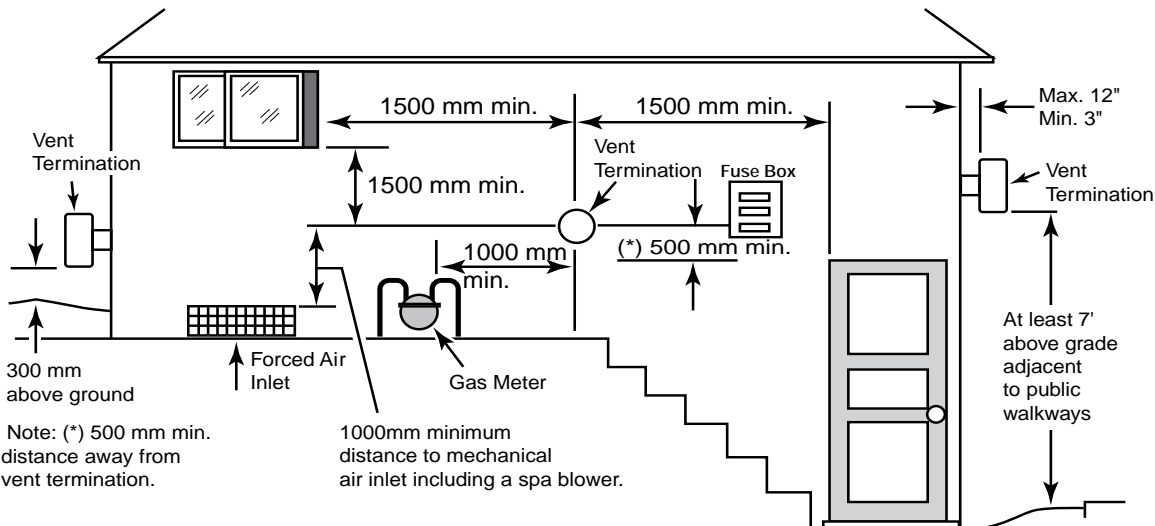

Figure 22.
b) When on side is open, the flue terminal shall be within 500 mm of the opening, and discharging in the direction of the opening (see Figure 22). There shall be no other flue terminals, gas meter, electricity meter, fuse box or openings into the building along the wall within the 500 mm distance. The flue terminal shall be located to ensure that a free flow of air across it is achieved.